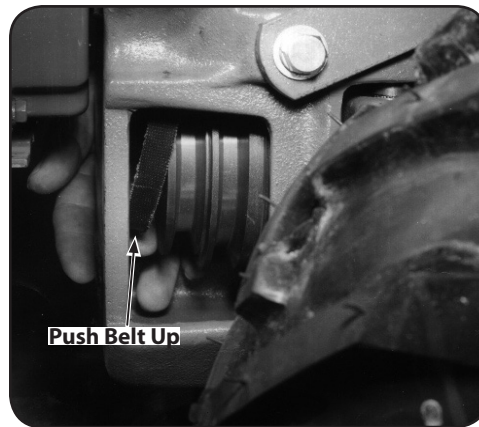

Figure 5-26
4. Push the belt upward to create slack in the belt. See Figure 5-26.
9. Push the belt forward then down until it is looped over the lower pulley. See Figure 5-26. Do not yet seat it in either of the lower pulley's grooves.